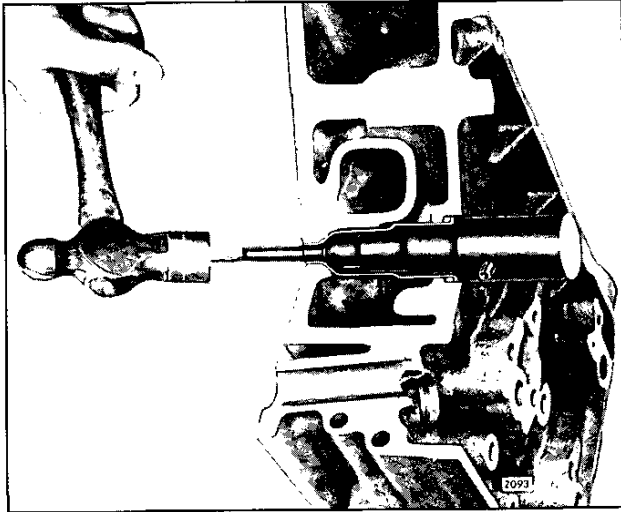

Fig. 1 – Removing Injector Tube Using Tools J 5286-4A and J 5286-5
The bore in the cylinder head for the fuel injector is directly through the cylinder head water jacket as shown in Fig. 1. To prevent coolant from contacting the injector and still maintain maximum cooling of the injector, a tube is pressed into the injector bore. This tube is sealed at the top with a neoprene ring (former) or fluorelastomer (current) and upset into a flare on the lower side of the cylinder head to create water-tight and gas-tight joints at the top and bottom.
2. Place the injector tube installer J 5286-4A in the injector tube. Insert the pilot J 5286-5 through the small opening of the injector tube and thread the pilot into the tapped hole in the end of the installer (Fig. 1).